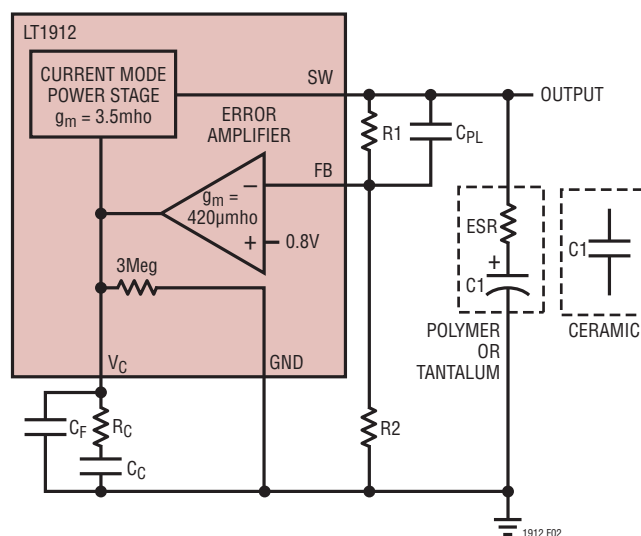
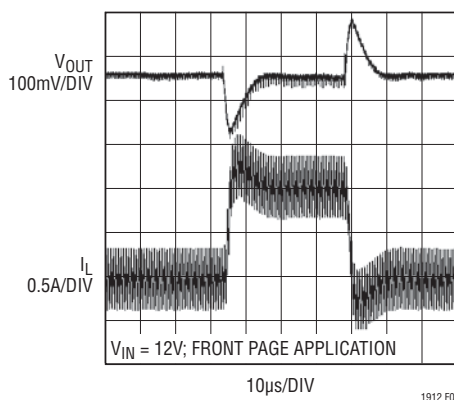

Figure 2. Model for Loop Response
Figure 3. Transient Load Response of the LT1912 Front Page Application as the Load Current is Stepped from 500mA to 1500mA.  $V_{OUT} = 3.3V$
The LT1912 uses current mode control to regulate the output. This simplifies loop compensation. In particular, the LT1912 does not require the ESR of the output capacitor for stability, so you are free to use ceramic capacitors to achieve low output ripple and small circuit size. Frequency compensation is provided by the components tied to the VC pin, as shown in Figure 2. Generally a capacitor (CC) and a resistor (RC) in series to ground are used. In addition, there may be lower value capacitor in parallel. This capacitor (CF) is not part of the loop compensation but is used to filter noise at the switching frequency, and is required only if a phase-lead capacitor is used or if the output capacitor has high ESR.
practical approach is to start with one of the circuits in this data sheet that is similar to your application and tune the compensation network to optimize the performance. Stability should then be checked across all operating conditions, including load current, input voltage and temperature. The LT1375 data sheet contains a more thorough discussion of loop compensation and describes how to test the stability using a transient load. Figure 2 shows an equivalent circuit for the LT1912 control loop. The error amplifier is a transconductance amplifier with finite output impedance. The power section, consisting of the modulator, power switch and inductor, is modeled as a transconductance amplifier generating an output current proportional to the voltage at the  $V_C$  pin. Note that the output capacitor integrates this current, and that the capacitor on the  $V_C$  pin ( $C_C$ ) integrates the error amplifier output current, resulting in two poles in the loop. In most cases a zero is required and comes from either the output capacitor ESR or from a resistor  $R_C$  in series with  $C_C$ . This simple model works well as long as the value of the inductor is not too high and the loop crossover frequency is much lower than the switching frequency. A phase lead capacitor ( $C_{PL}$ ) across the feedback divider may improve the transient response. Figure 3 shows the transient response when the load current is stepped from 500mA to 1500mA and back to 500mA.
Capacitor  $C_3$  and the internal boost Schottky diode (see the Block Diagram) are used to generate a boost voltage that is higher than the input voltage. In most cases a  $0.22\mu\text{F}$  capacitor will work well. Figure 2 shows three ways to arrange the boost circuit. The BOOST pin must be more than 2.3V above the SW pin for best efficiency. For outputs of 3V and above, the standard circuit (Figure 4a) is best. For outputs between 2.8V and 3V, use a  $1\mu\text{F}$  boost capacitor. A 2.5V output presents a special case because it is marginally adequate to support the boosted drive stage while using the internal boost diode. For reliable BOOST pin operation with 2.5V outputs use a good external Schottky diode (such as the ON Semi MBR0540), and a  $1\mu\text{F}$  boost capacitor (see Figure 4b). For lower output voltages the boost diode can be tied to the input (Figure 4c), or to